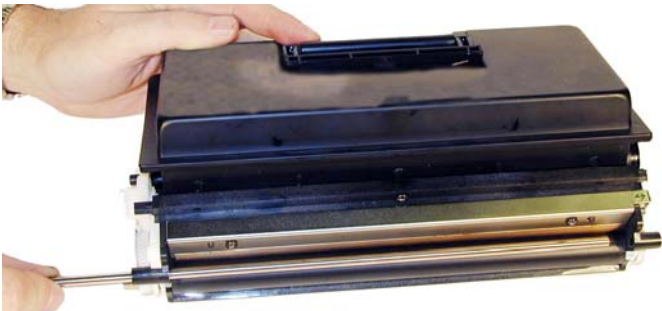

Figure 28
26) Slide out the metal bar. See **Figure 28**